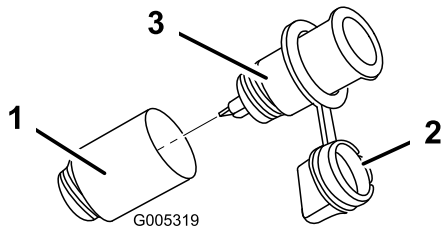

Figure 7
3. Locate the power plug assembly in loose parts. Unscrew the assembly as shown in Figure 7.